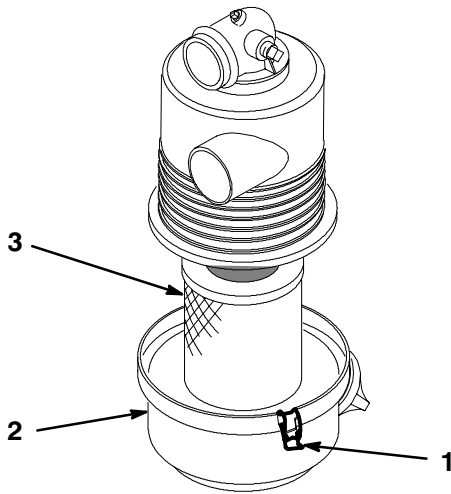

Figure 28
3. Release latches securing air cleaner cover to air cleaner body. Separate cover from body. Clean inside of air cleaner cover (Fig. 28).
4. Gently slide filter out of air cleaner body to reduce the amount of dust dislodged (Fig. 28). Avoid knocking filter against air cleaner body.